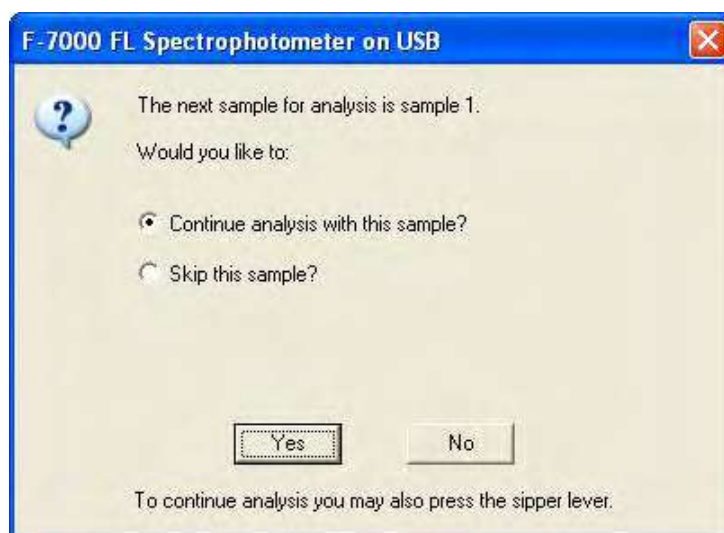

Fig. 2-18
- (1) Click the  button and make sure a sample has already been defined.
- (2) Set a sample and click  (pre-scan) button.
- (3) After completion of pre-scan, click the  button. The window shown in Fig. 2-18 appears. Click **Yes**.